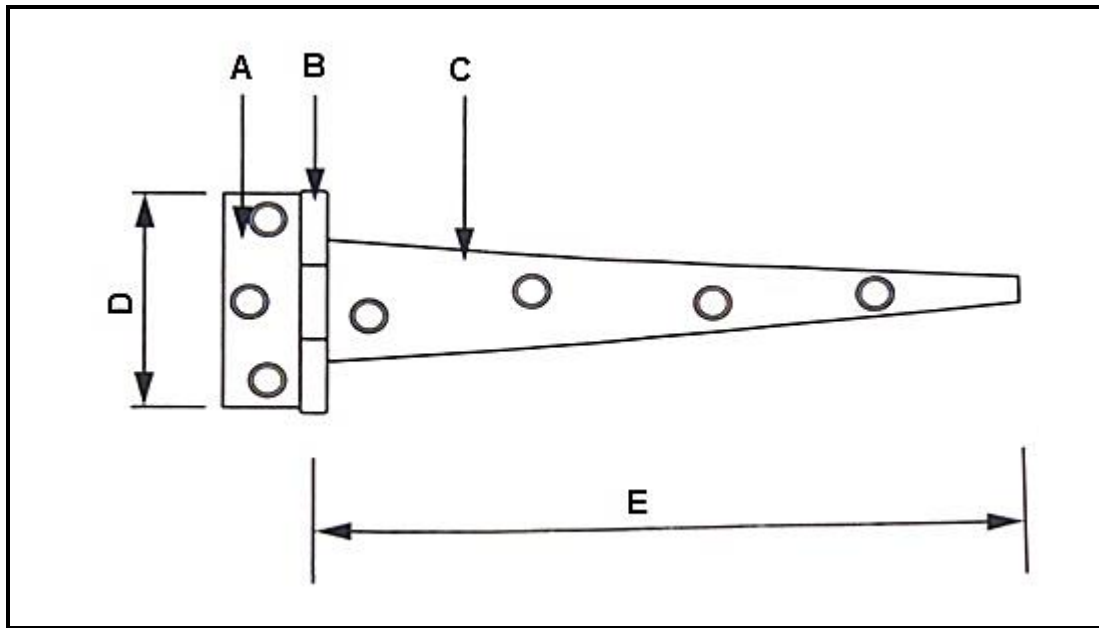

FIGURE 6.10
6.10 Identify the hinge and the different parts **A** to **E** in FIGURE 6.10.